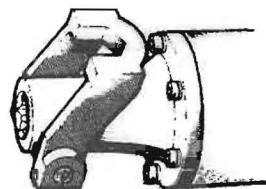

Fig. 2
1. With the retainer directed backward, insert the tool shank into the hole on the front cover. (Fig. 2)